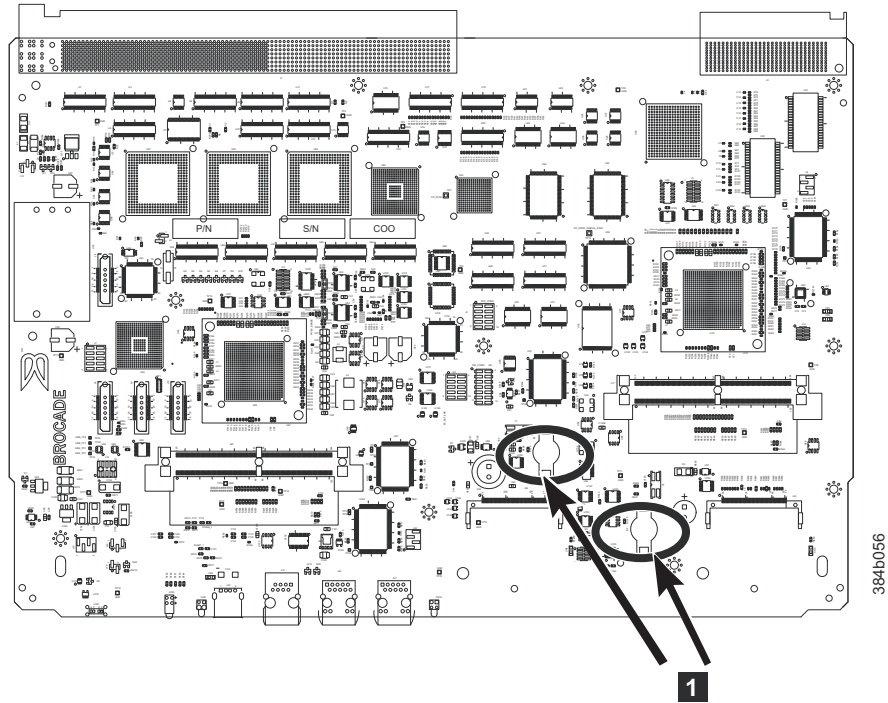

Figure 39. Battery locations on the CP8 blade
6. Go to the following locations and remove the two BR1225 batteries from each of the PCBAs (see **1** in Figure 39 on page 101):